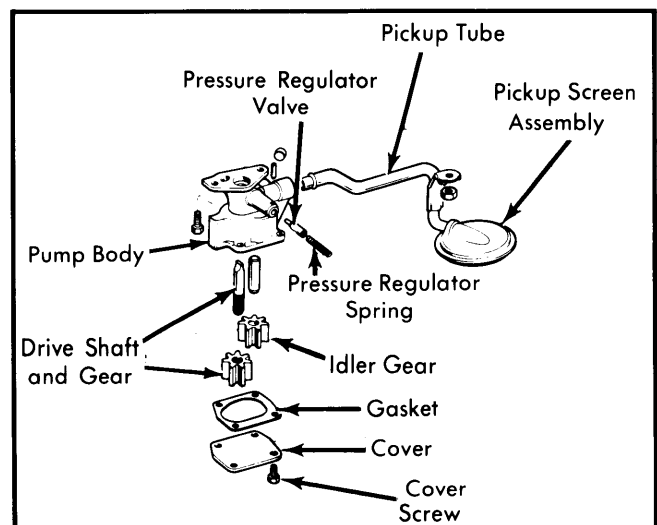

Fig. 11 Exploded View of Engine Oil Pump Assembly
2) Remove 2 flange bolts and nut from main bearing cap bolt. Remove oil pump and screen as an assembly. Do not disturb oil pickup tube on screen or pump body. Disassemble pump and inspect for excessive wear or cracks. Replace oil pump as a unit if parts are defective or not within specifications. See Fig. 11.